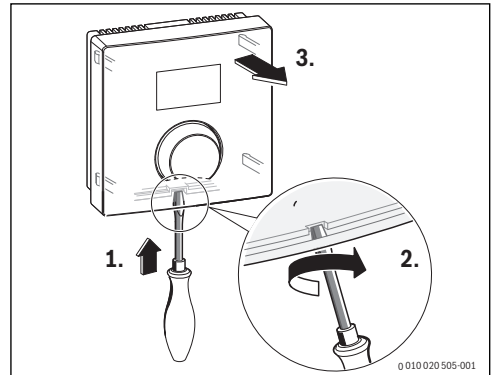

Fig. 7 Releasing control unit from wall socket
3. Release the control unit from the wall socket (→ fig. 7, page 6).